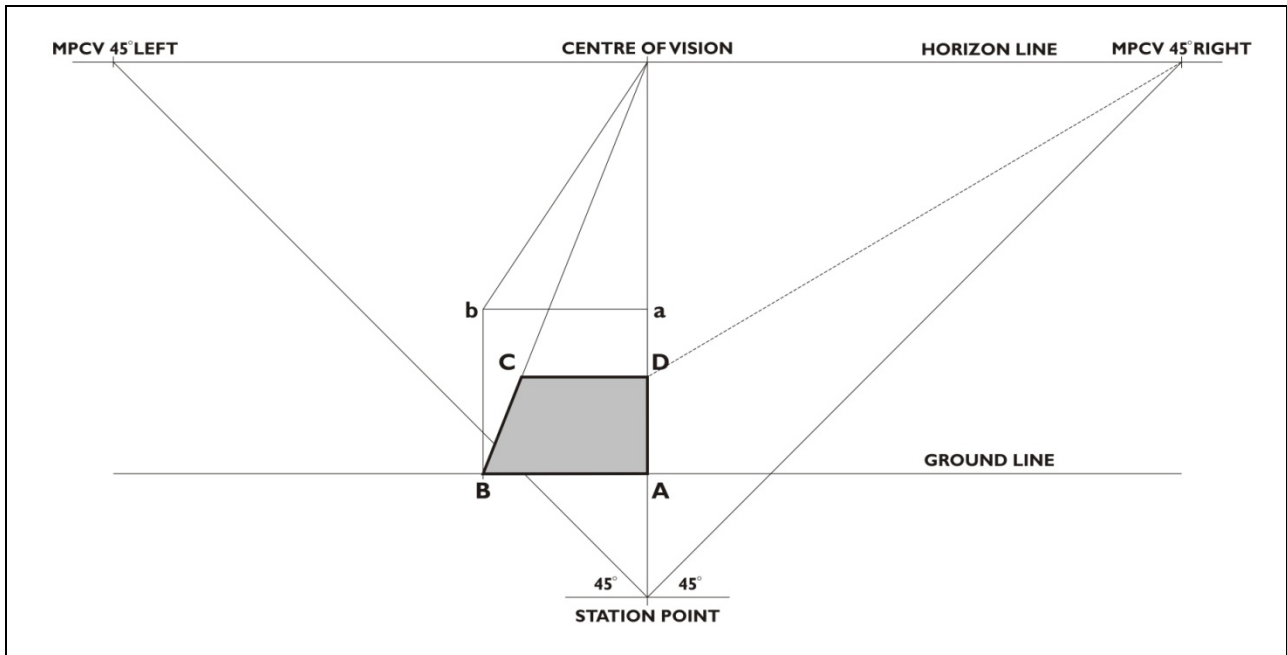

Figure 2.12 One-point perspective drawing of a cube on the ground
1. Measure the height of the cube along a vertically drawn line (40 mm) from point B and establish point b at the new height. Refer to Figure 2.12.